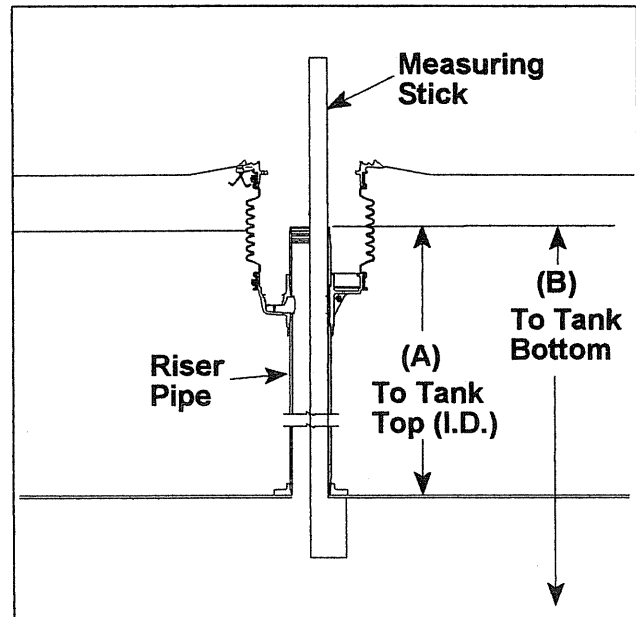
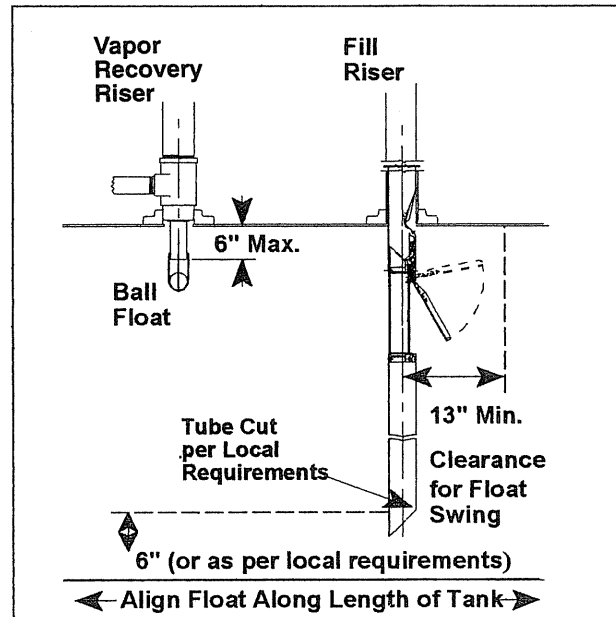

Figure 1
Figure 16
Measuring from the underside of the inlet tube flange, mark the overall length of the drop tube a distance of (B) minus 6" or as per local codes or requirements. Determine dimension (B) from the measurements taken in Step 1, Figure 1 (Tip of the riser pipe to the bottom of the tank). Saw off the excess tube at a 45 degree angle and file off any sharp burrs. (Refer to Figure 16)